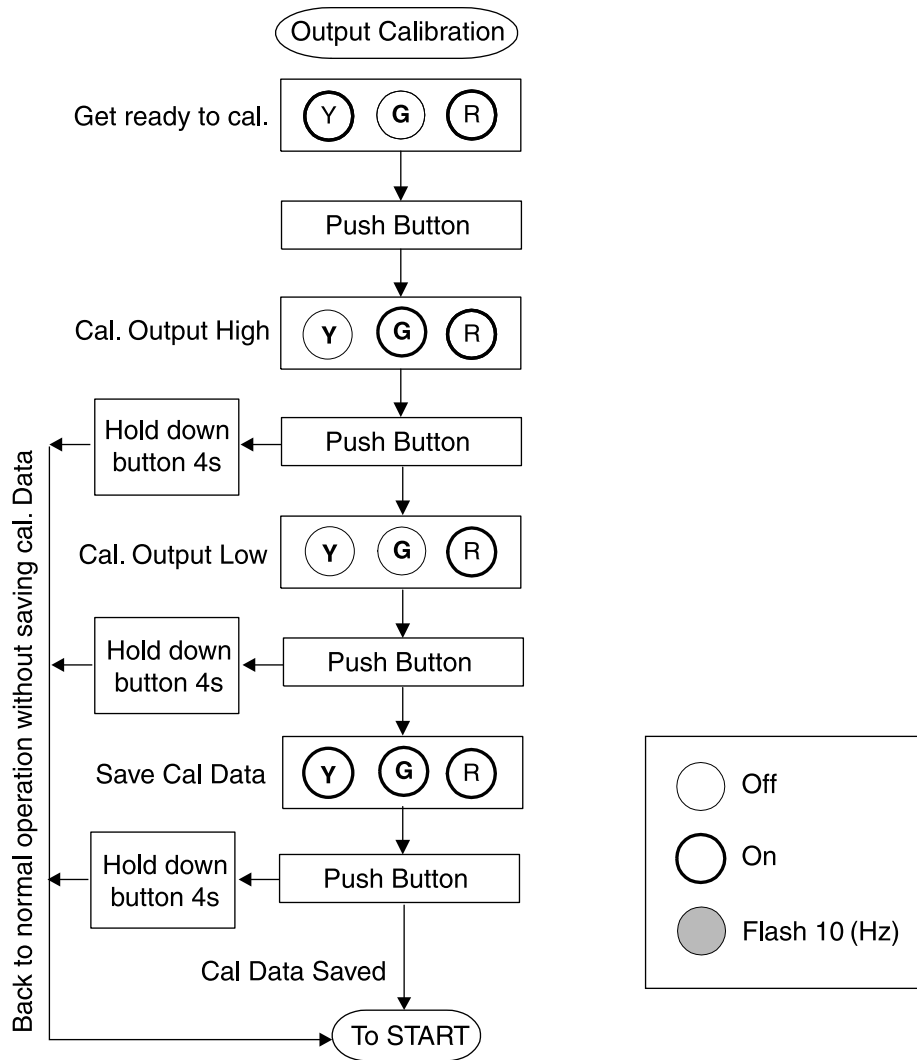

Figure 1b: Q498 Output Calibration Flow Chart
20. Press and hold the button down for 4 seconds. The Red and Yellow LED's will be lit. Manually calibrating the output frequency requires first selecting the desired frequency output range with DIP Switch SW1, positions 9 & 10, as described in Figure 1B. These switch settings are not required if calibrating via the software utility. After the output frequency is calibrated, the switches can be reset to their previous settings for calibration method. Press the button one more time and the Red and Green LED's will be lit.